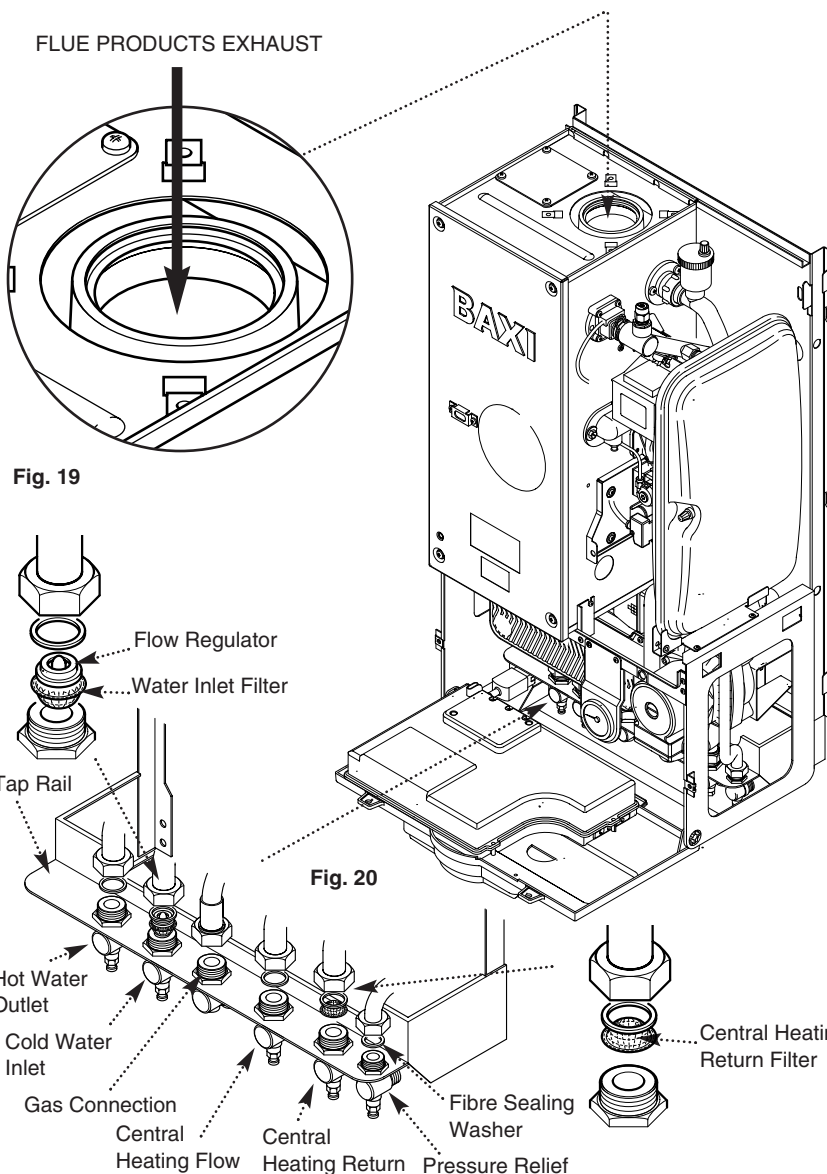

Fig. 20
- b) Domestic hot water cold feed, if necessary fit the water flow regulator ensuring that it is fitted the correct way round (Fig. 20). **NOTE:** Ensure water inlet filter is fitted.
- c) The remaining connections ensuring the fibre sealing washers are inserted between the valve outlet face and the flange on the copper pipes of the water circuit and pressure relief connections (Fig. 20).